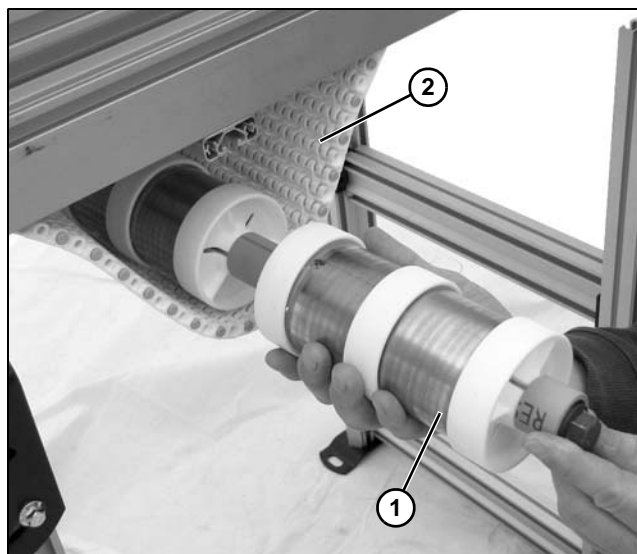

Figure 122
4. Remove weighted pulley assembly (**Figure 122, item 1**) from belt (**Figure 122, item 2**).